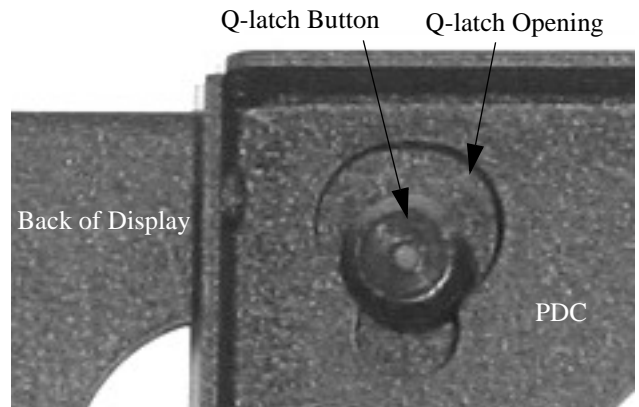

Figure 2. Align Button In Opening
- Using two people, align the Q-latch buttons with the Q-latch openings and install the display. Make sure the buttons of the Q-latch bracket fully engage all the Q-latch openings on the PDC (see Figure 2).